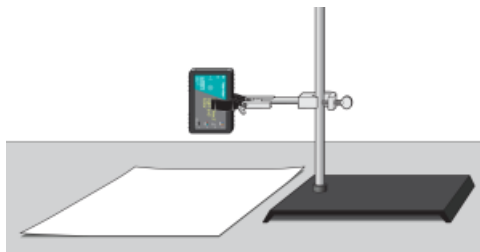

Figure 1
3. Use a utility clamp and ring stand to fasten a Light Sensor 5 cm from and perpendicular to the surface of the table (see Figure 1). The classroom lights should be on.